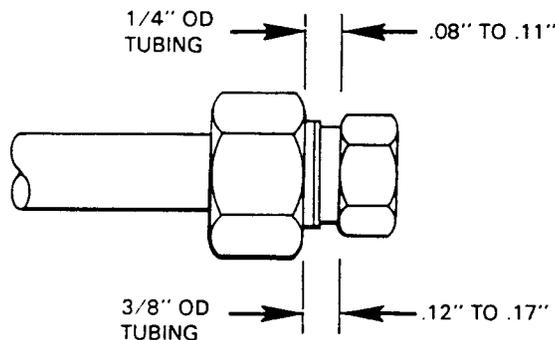

Figure 28-5. Tolerances, Union Nut and Tubing Nut
5. After tightening each fitting, measure distance between face of union nut and face of tubing nut. Refer to figure 28-5 for tolerance.
1. If fittings show evidence of galling, or do not meet dimensional requirements (refer to figure 28-5), or continue to leak after being tightened, they must be replaced.
9. With tanks full and master switch ON, needle should be centered on F radial mark within  $\pm 2$  needle widths. If not within this tolerance, adjust electrical adjustment (refer to figure 28-5) to bring it within tolerance; do not center needle.